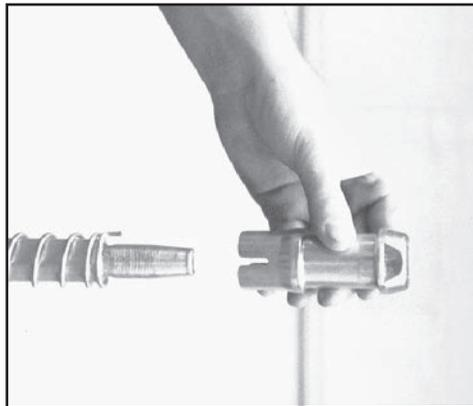

**FIG. 42: REMOVE EXHAUST RING SAFETY SEGMENT**
5. Remove exhaust ring safety segment (see Fig. 42).